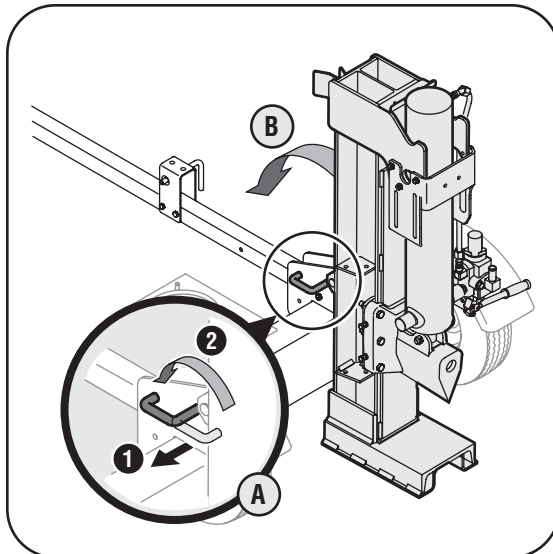

Figure 3-3
1. Pull out the vertical beam lock, rotate it back, and pivot the beam to the horizontal position until it locks. See Figure 3-3.